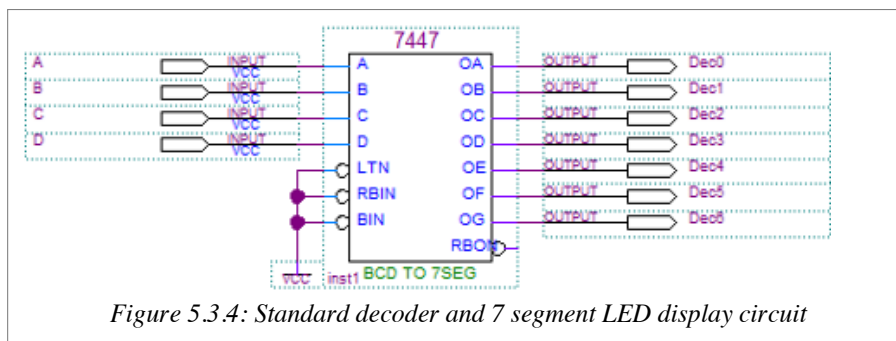

Figure 5.3.4: Standard decoder and 7 segment LED display circuit
For the circuit in Figure 5.3.4:
2. Add a block diagram sheet to the project and draw the logic diagram of the circuit (Figure 5.3.4).
- For example in Figure 5.3.4, the output pin Dec0 is associated with segment 0, Dec1 is associated with segment 1, and so on.